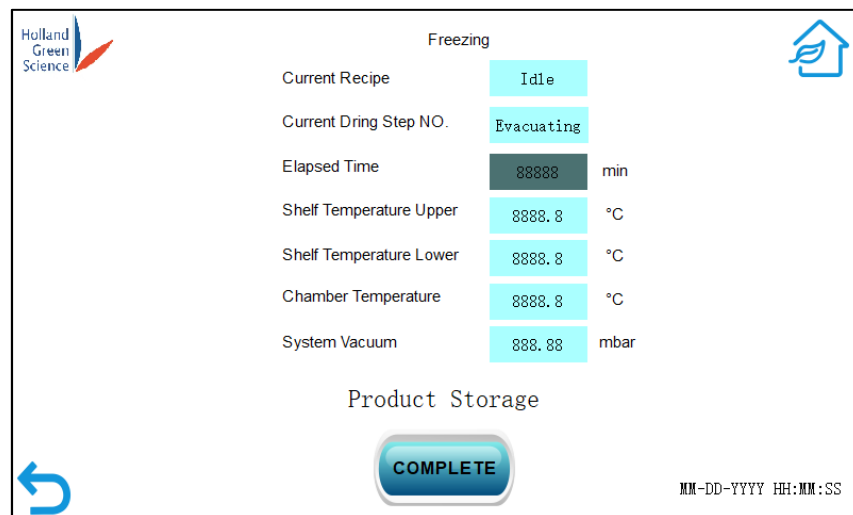
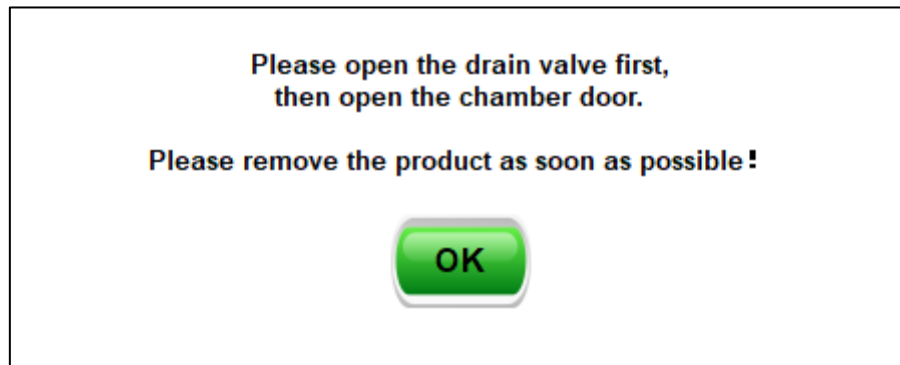

Figure 23
Figure 24
- When the processing step indicates “Product Storage” (Figure 23), the Program freeze-drying process is finished. **Open the drain valve and wait for the chamber pressure to return to normal before opening the chamber door to retrieve the product (Figure 24).**